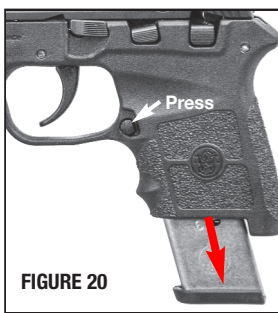

FIGURE 20
- Point the pistol in a safe direction. Make sure your finger is off the trigger and out of the trigger guard. Depress the magazine release and remove the magazine (FIGURE 20).